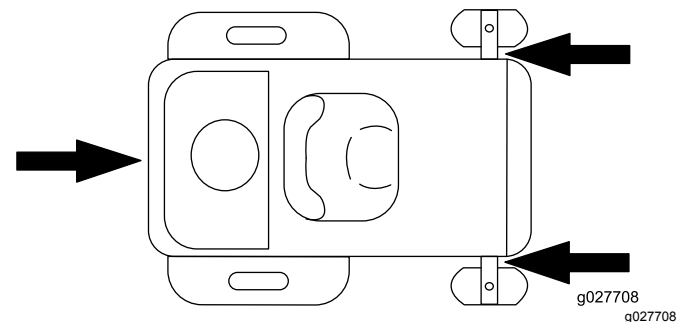

Figure 29
- Securely fasten the machine to the trailer or truck with straps, chains, cable, or ropes. Only use the designated tie-down locations on the mower as shown in Figure 29. Use these locations even when transporting the mower with an attached accessory. Using non-designated locations may cause damage to the mower and/or attachment.